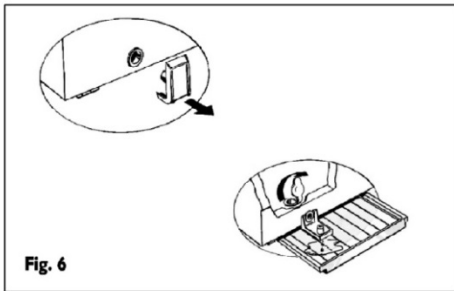

Fig. 6
- Remove the internal defrost water drain plug (depending on model) (**Fig. 6**)
- Remove the external defrost water drain plug (depending on model) and reposition it as shown in the **figure 6**.
- Place a bowl beneath the drainage channel to collect the residual water. If available, use the divider (**Fig. 6**)